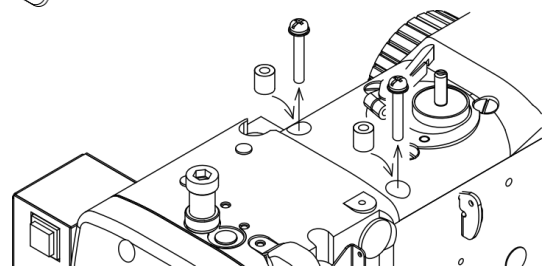

Fig.3
- (1) Of the screw that holds the top cover as shown in Figure 3, remove the two front side.